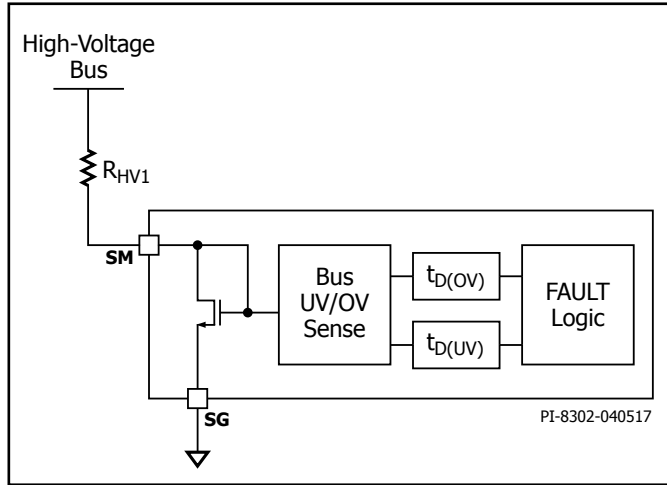
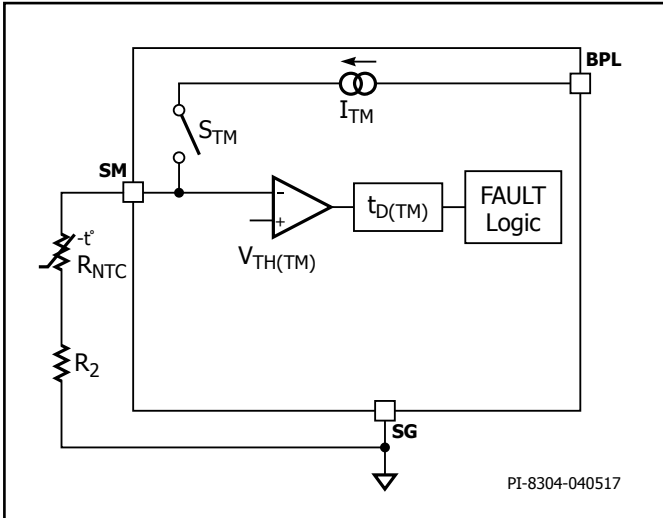

Figure 13. High-Voltage Bus Monitoring with SYSTEM MONITOR Pin.
Figure 15. External Component Thermal Monitoring with SYSTEM MONITOR Pin.
BridgeSwitch-2 provides system level status updates through the SYSTEM MONITOR input. The SM pin can be used to track either the high-voltage (HV) DC bus voltage (see Figure 13) or the temperature of an external component through an NTC thermistor (see Figure 15). The SM pin is self-configuring. It automatically detects the type of external connection and adopts the appropriate circuit configuration at power-up.
The SYSTEM MONITOR pin enables temperature monitoring of an external component through an NTC thermistor as shown in Figure 15. Resistor  $R_2$  allows fine-tuning of the actual over-temperature threshold to achieve desired level with a given NTC resistor.
A resistor connected from the DC bus to the SM pin will increase overall inverter consumption depending on the value chosen (refer to  $R_{HV1}$  in Figure 13). For example, a 7 M $\Omega$  sense resistor consumes 16 mW from a 340 VDC bus.